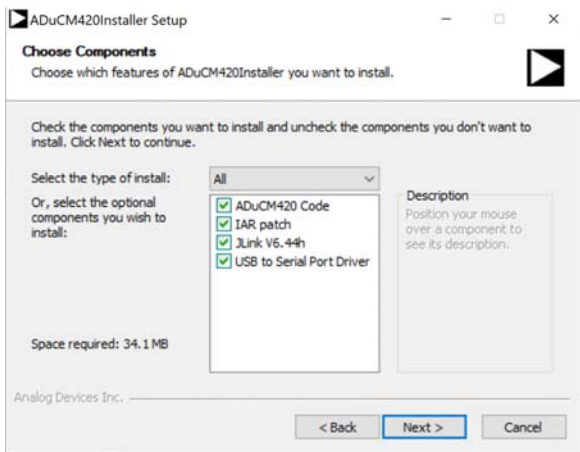

Figure 4. Installation Options
2. After downloading the ADuCM420 installer from [ftp://ftp.analog.com/pub/microconverter/ADuCM420](http://ftp.analog.com/pub/microconverter/ADuCM420), double click **ADuCM420Installer-V0.1.0.0.exe** and follow the instructions shown in Figure 4. The **ADuCM420Installer Setup** window displays the installation method and component selection, as shown in Figure 4. The end user license agreement (EULA) is displayed after proceeding through the **ADuCM420Installer Setup** window. Accepting the EULA extracts the installer, and rejecting the EULA cancels the installer.